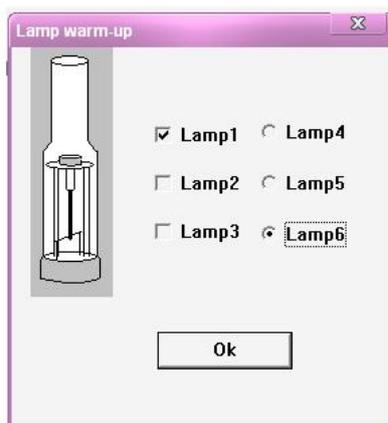

Figure 4-31
q. Press the "lamp warm-up", display the figure 4-31 dialog box, you can select more than one lamp to warm up.